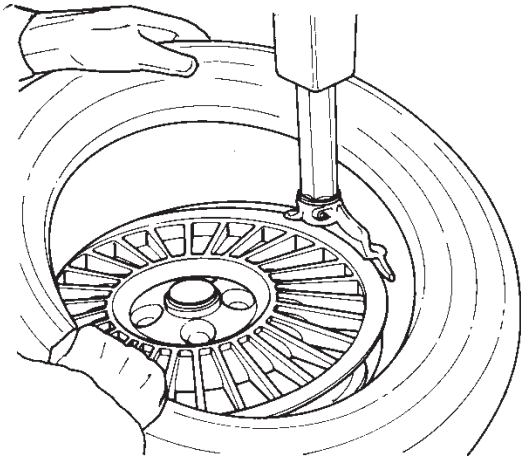

Fig. 21
B. Lock the rim to the turntable and rotate it so that the valve is at the 2 o'clock position. Place the tire to be mounted on the rim. Swing the mount/demount arm in so that the mount/demount head is in the working position. (Fig. 21) Position the lower bead on top of the mount/demount head and UNDER the mounting finger of the mount/demount head (Fig. 21). Turn the wheel clockwise (right pedal down) while simultaneously pushing the tire down into the drop center, opposite to the mount/demount head.